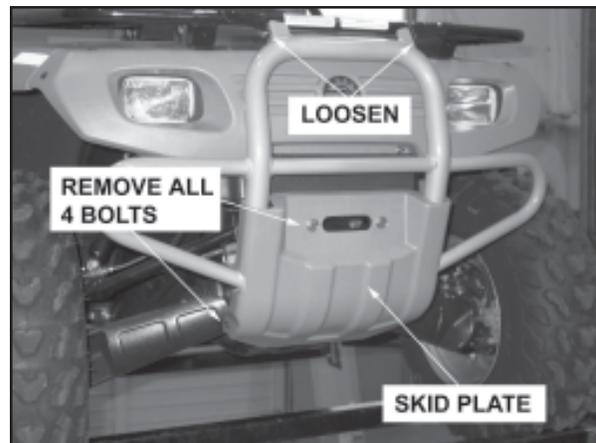

Figure 1
1. Using a 13mm wrench and socket, loosen the top bolts that are attached to the rack (Leave nuts on the bolts, leaving the bumper still attached and loose). Remove the plastic brush guard using a Phillips screwdriver and a 10mm wrench to remove the bottom screws. Use a 15mm wrench to remove the front brush guard bolts, **Figure 1**.